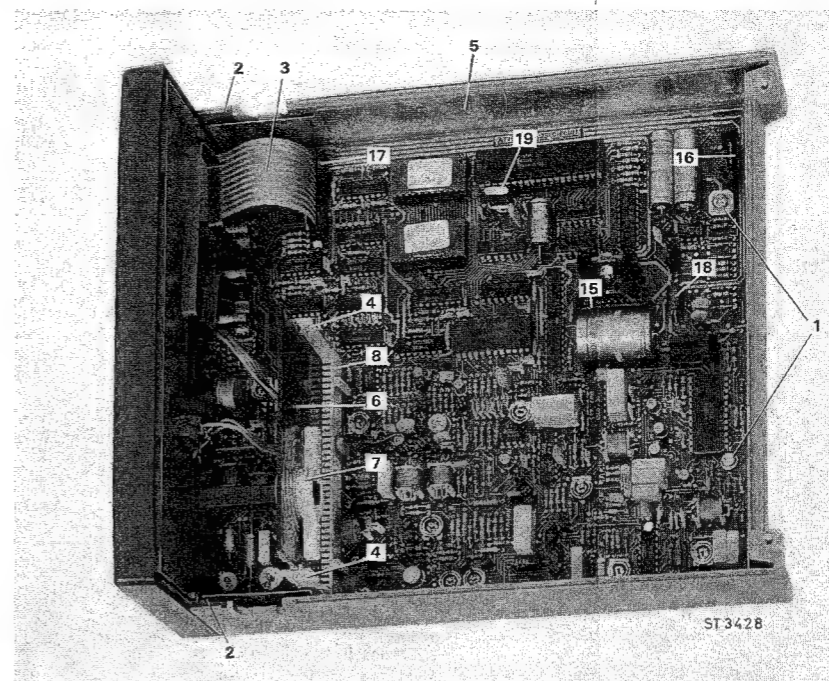

Fig. 42. Removing the bottom cover and front
2.1.2. Removing the bottom cover. (fig. 42)
- Remove the two fixing screws which attach the printed-circuit board to the bottom cover. (fig. 42 item 1).
- Bend out the two hooks of the front plate. (fig. 42 item 2).
- Disconnect the flexible print from the connector X1901. (fig. 42 item 3).
2.2.2. Function switch. (fig. 42)
- Bend out the two hooks and remove the printed-circuit board. (fig. 42 item 4).